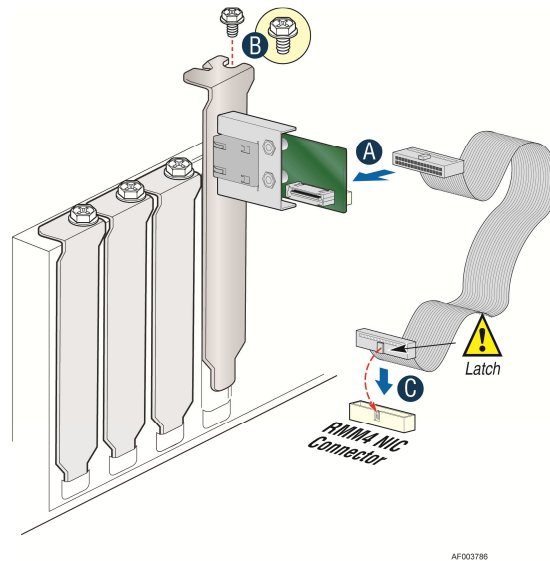

Figure 21: Adding the Intel® Dedicated Server Management NIC Module on a Third-party Chassis
- Attach the cable to the cable connector on the Intel® Dedicated Server Management NIC module as shown in Figure 21 (A).
- Attach the cable to the RMM4 NIC connector (J5C1) on the server board as shown in Figure 21 (C).